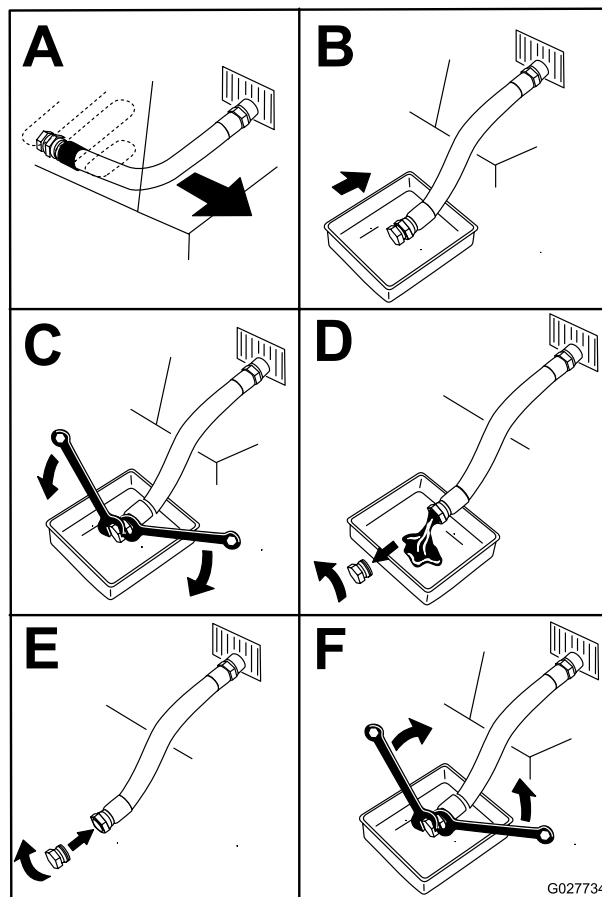

Figure 48
5. Drain the oil from the engine (Figure 48).